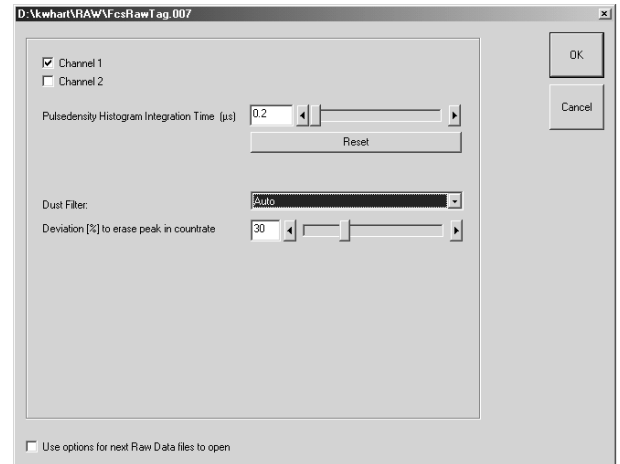

Fig. 5-367 The Options menu for loading raw data files with dust filter set to automatic
- Selection of **Auto** (see Fig. 5-367) will allow you to set a threshold intensity in the **Dust Filter Threshold Intensity** display box by typing in a value or selecting a specific value with the slider. The value (0 ... 100) will define the threshold in percentage. If now the integrated count rate over a certain count interval will exceed the average count rate by that threshold, this special interval is discarded for correlation analysis. For example, if the system detects a count rate in a certain time interval that exceeds the average count rate by over 30 % and the threshold was set at 30, this interval is discarded for correlation analysis. The time intervals before and after the discarded region are separately correlated and the results averaged. These holds also true, if more than one region is discarded.